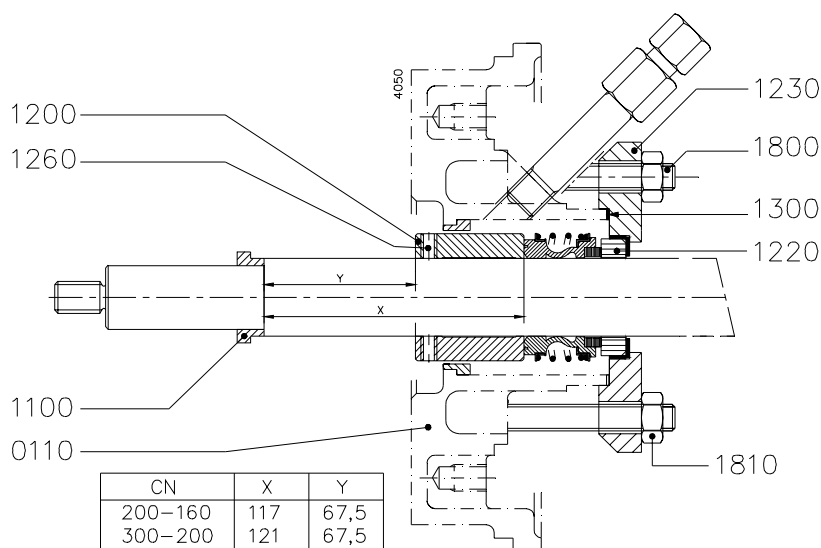

figure 31 Adjusting the shaft sleeve of CN 200-160 and CN 300-200.
- 4 Push the shaft sleeve (1200) and the rotating part of the shaft seal (1220) off the shaft. **For pump types CN 200-160 and CN 300-200 the tightening screws (1260) have to be loosened first.** See figure 31.
- 8 Mount the shaft sleeve (1200). For pump types CN 200-160 and CN 300-200 the shaft sleeve (1200) has to be adjusted according to distance Y, see figure 31.
- 7 Push the shaft sleeve (1200) onto the pump shaft. For pump types CN 200-160 and CN 300-200 the shaft sleeve (1200) has to be adjusted according to distance Y, see figure 31!